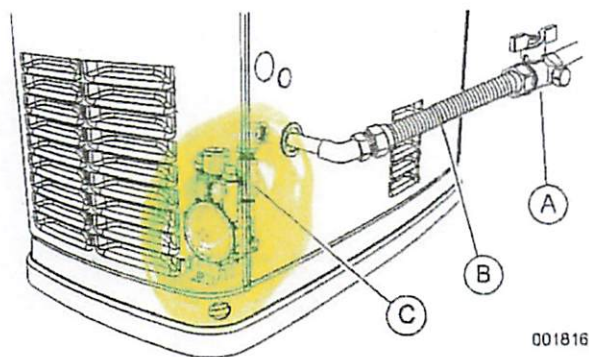

Figure 5-2. Sediment Trap, Fuel Shutoff Valve with Manometer Port, and Flexible Fuel Line
See *Figure 5-2*. The generator will require an external manual fuel shutoff valve (A) on the fuel line.
See *Figure 5-2*. When connecting flexible fuel line (B) to generator, use a listed assembly meeting the requirements of ANSI Z21.75/ CSA 6.27—Connectors for Outdoor Gas Appliances and Manufactured Homes or AGA-approved flexible fuel line in accordance with local regulations.
See *Figure 5-2*. Some local codes require a sediment trap (C). The fuel regulator connection has an integrated sediment trap.